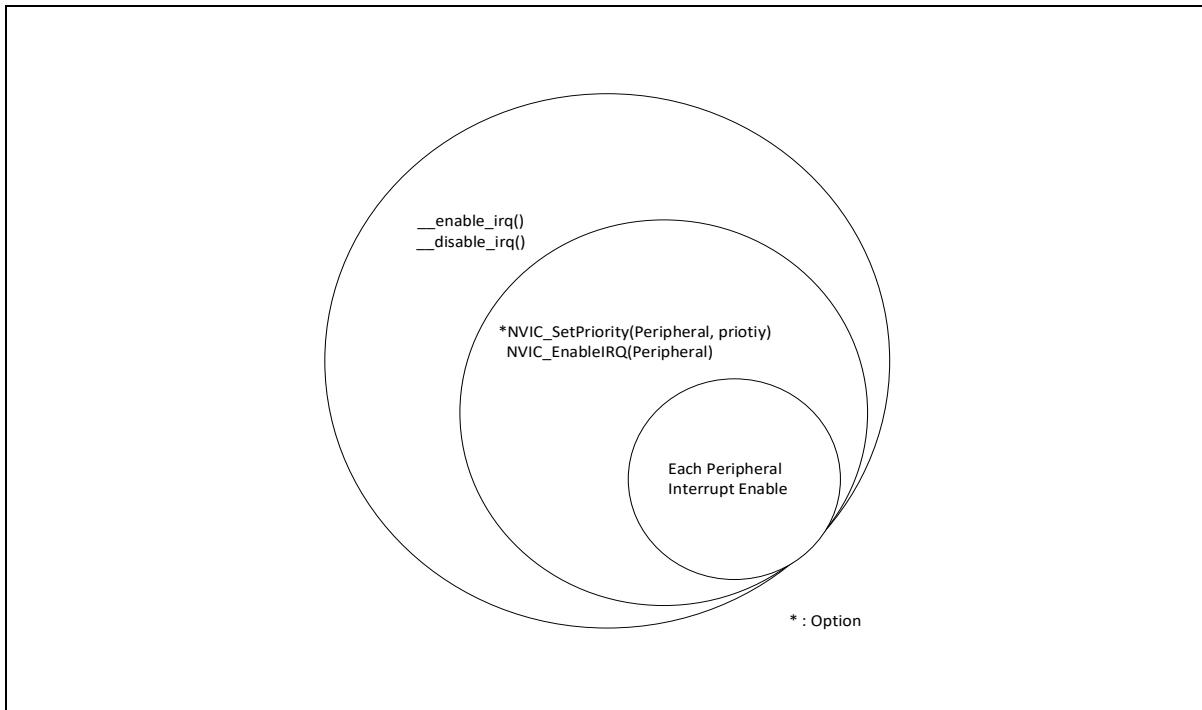

Figure 6. Interrupt Block Diagram
2. Figure 6 is a caution when using Peripheral Interrupts. Interrupt don't work if only peripheral interrupts are enabled. Enable the function in core to enable interrupt.